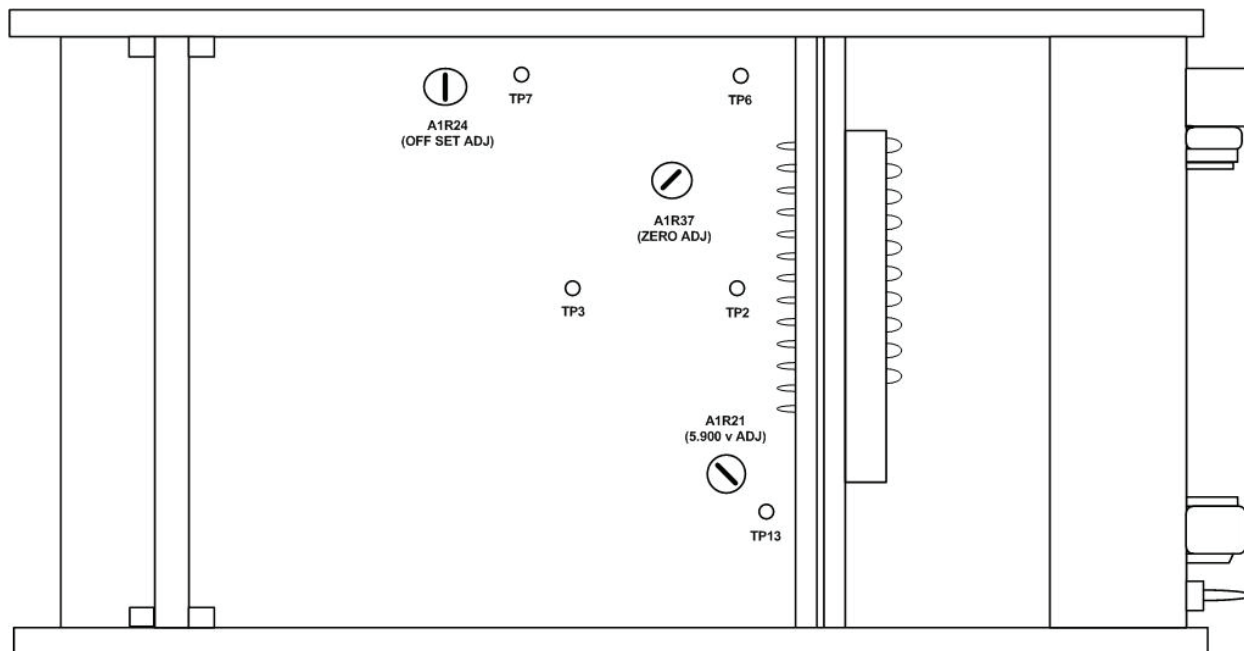

Figure 2. Calibrator A1 circuit board - component location.
- (1) Remove cover from TI for access to adjustments.
- (2) Return power meter **OPERATE/CALIBRATE** switch A2S1 to **OPERATE** if set in 8 a (2) (d) above.
- (3) Connect the multimeter positive lead to TP13 (fig. 2) and the negative lead to TI chassis.
- (4) Turn TI **POWER (mW)** switch and power meter **RANGE** switch to **3 mW**.
- (5) Set TI **ZERO/TEST** switch to **ZERO**.
- (6) Adjust TI **ZERO** control to midrange.
- (7) Adjust A1R21 (5.900 v ADJ) (fig. 2) for a multimeter indication of 5.900 V dc (R).
- (8) Connect multimeter positive lead to TP2 (fig. 2) and the negative lead to TP3 (fig. 2).
- (9) Adjust A1R37 (ZERO ADJ) (fig. 2) for a multimeter indication of 0.0000 V dc (R).
- (10) Connect multimeter positive lead to TP7 (fig. 2) and the negative lead to TP 6 (fig. 2).
- (11) Adjust A1R24 (OFFSET ADJ) (fig. 2) for a multimeter indication of 0.0000 V dc (R).